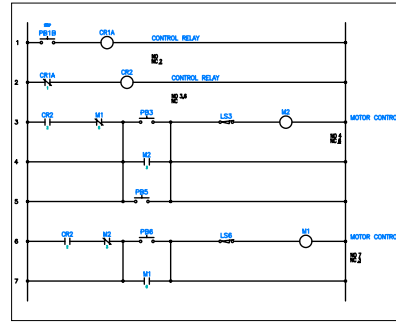

Figure 6-53 The ladder after using the **Scoot** tool
5. Press ENTER to exit the command. Figure 6-53 shows the schematic diagram after using the **Scoot** tool.